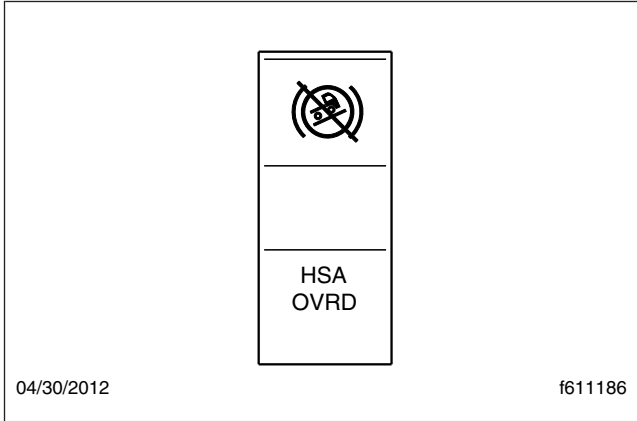
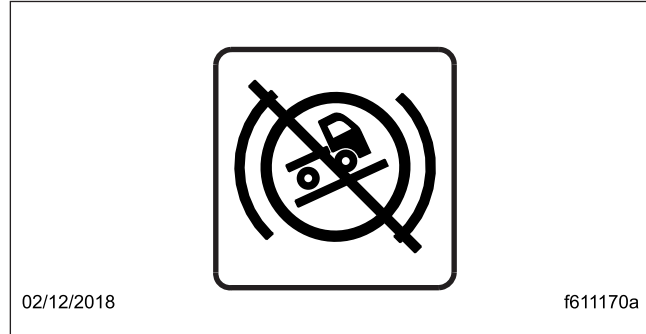

Fig. 9, HSA Switch
Fig. 10, HSA Telltale
17. Press the HSA override switch, and verify that the HSA indicator light illuminates. See Fig. 9 and Fig. 10.